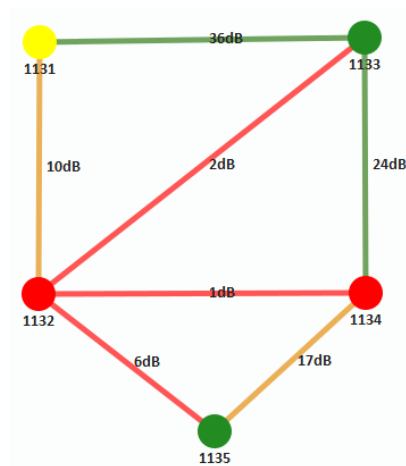

Figure 26 Example Network Topology
transition from green to yellow to red as the link weakens while also displaying the SNR of the link. This can be seen in **Figure 26**.
- **Route Health** – The Silvus StreamScape Utility will alert the user when too many packets are being routed through a single node. In such cases, a node will change from green to yellow to red as the packet queue increases (see ‘1131’ and ‘1132’ in **Figure 26**). This will allow the user to recognize the issue and rearrange the network accordingly.